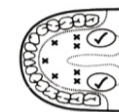

Figure 2
- a) **Oral Use:** Place thermometer under tongue as indicated by "✓" position shown in Figure 2. Close your mouth and breathe evenly through the nose to prevent the measurement from being influenced by inhaled/exhaled air. Normal temperature between 35.7°C and 37.3°C (96.3°F and 99.1°F)